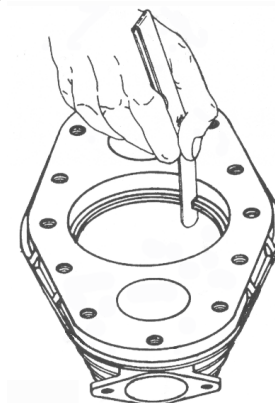

Fig. 1 - Checking The End Gap
Step 5 - Remove the piston and measure the gap between the ring ends, as show in **Figure 1**, right. The gap must fall within the range given for the particular ring you are measuring, as shown in the **Ring Gap Specification Chart**, above. If it is smaller than the specified measurement, proceed to **Steps 6-9**. If it is larger than the largest measurement, you have the wrong ring set and must get the correct one before you can proceed.